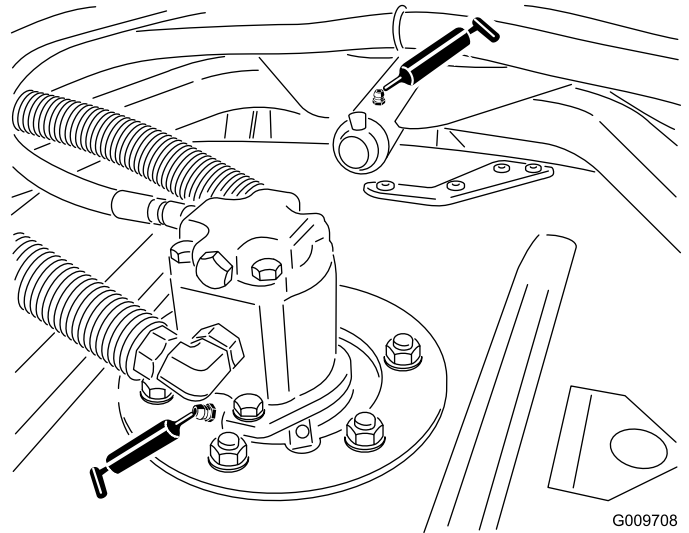

Figure 25
- Cutting-unit spindle-shaft bearings (2 per cutting unit) (Figure 25)
- Cutting-unit carrier-arm bushings (1 per cutting unit) (Figure 25)